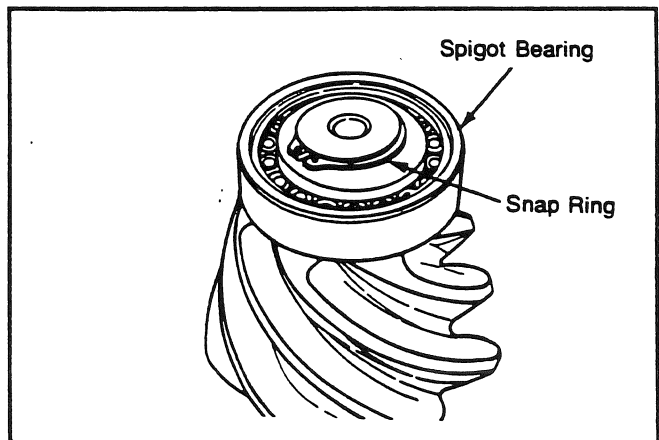
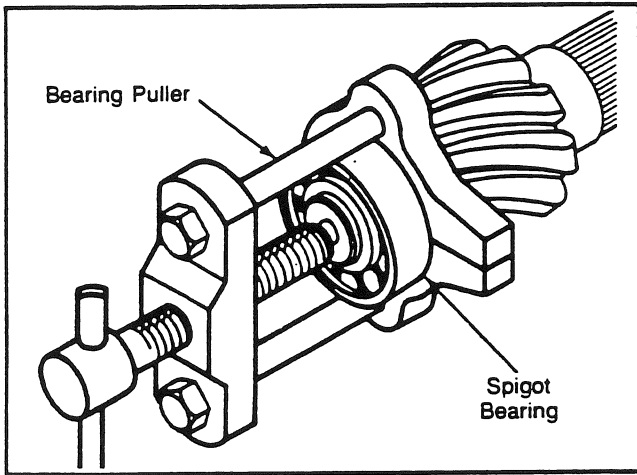
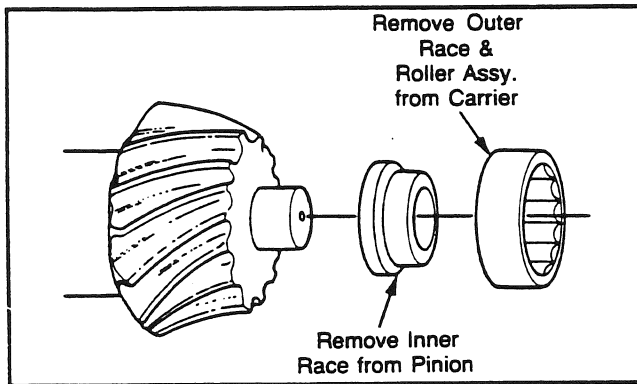

Fig. 25
Fig. 26
Fig. 27
10. Remove and discard the snap ring retaining the spigot bearing to the drive pinion (see Fig. 25). Remove the spigot bearing from the drive pinion using a bearing puller (see Fig. 26). For a two-piece bearing, remove the inner race from the drive pinion using a bearing puller. Remove the outer race from the carrier using a press or hammer and brass drift (see Fig. 27).